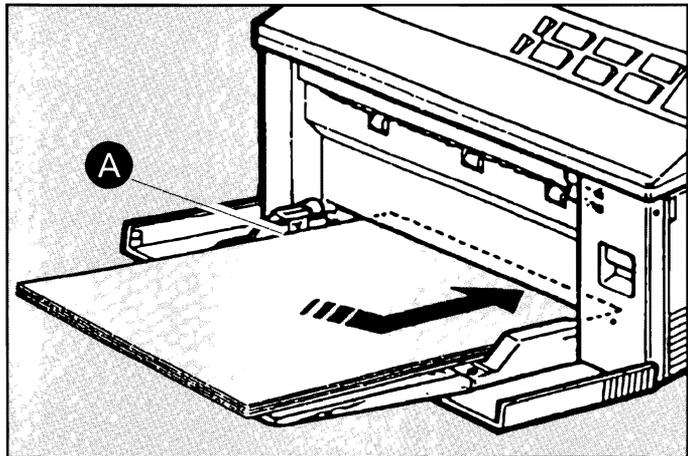

Figure 3-3. Placing Paper Forward in the Tray
2. Insert your paper or other print media with the **print surface face-down**. Place it in as far as it will go, making sure that it is no higher than the tip of the arrow on the paper width adjuster (figure 3-3, A).